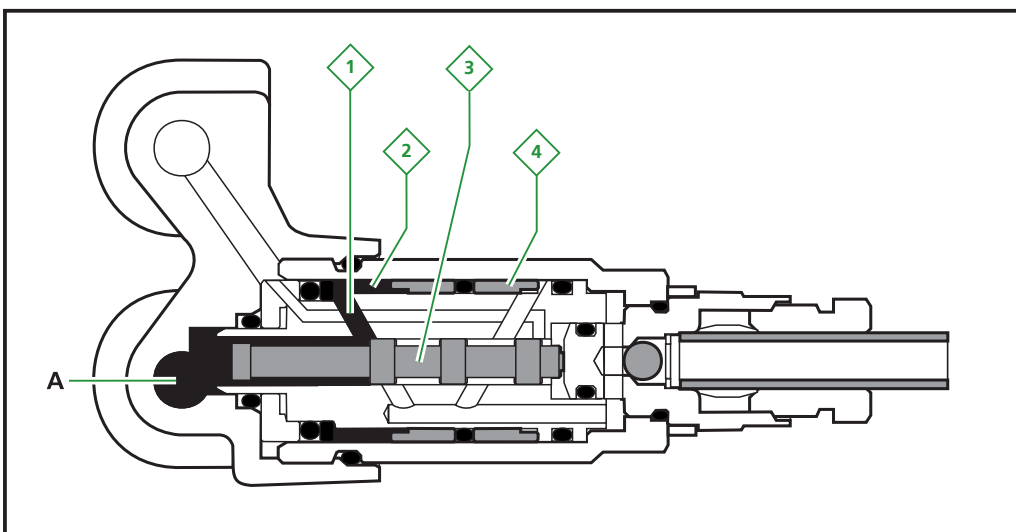

figure 3.4 Principle of operation of the metering unit - second phase
Grease is pumped into the metering unit (pumping phase A) through primary channel A (see figure 3.4). Because of the grease pressure, plunger (3) is pushed to the right, passed channel (1). The grease fills chamber (2) through channel (1) and presses plunger (4) to the right.